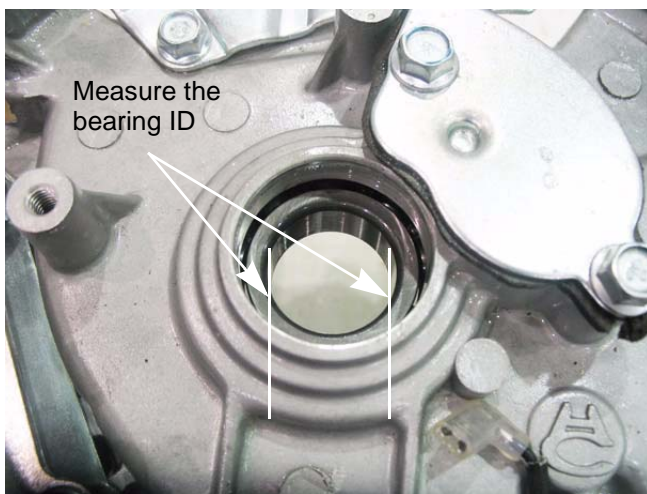

Figure 10.20
3. Measure the inside diameter of the bearings and compare to the chart at the end of this chapter. See Figure 10.20.